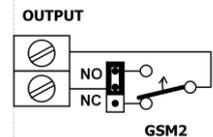

Fig.1 Output diagram
- Four SMS controlled and isolated relay outputs with NO (Normally Opened), or NC (Normally Closed) terminals – see Fig.1 below.
**Control Outputs.** GSM2000 module features four control relay outputs. Each output has two installation terminals jumper configured to operate in normally opened (NO), or normally closed (NC) mode (see figure 1). Outputs feature the following "GSM2 Configurator" software set parameters: